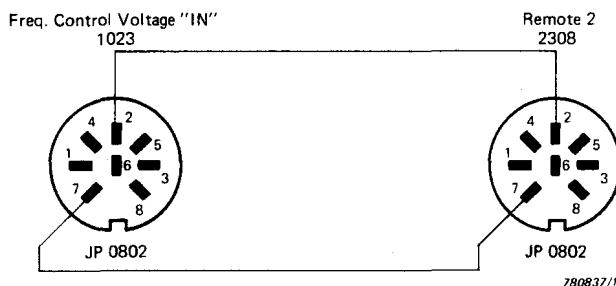

Fig.3.6. Control cable for connection between FREQUENCY CONTROL VOLTAGE "In" on the 1023 and REMOTE 2 on the 2308
1. Connect the control cable shown in Fig.3.6 between the FREQUENCY CONTROL VOLTAGE "In" on the 1023 and REMOTE 2 on the 2308. If preferred a standard remote control cable AQ 0034 may be used but with the line to pin 8 of one of its plugs disconnected.